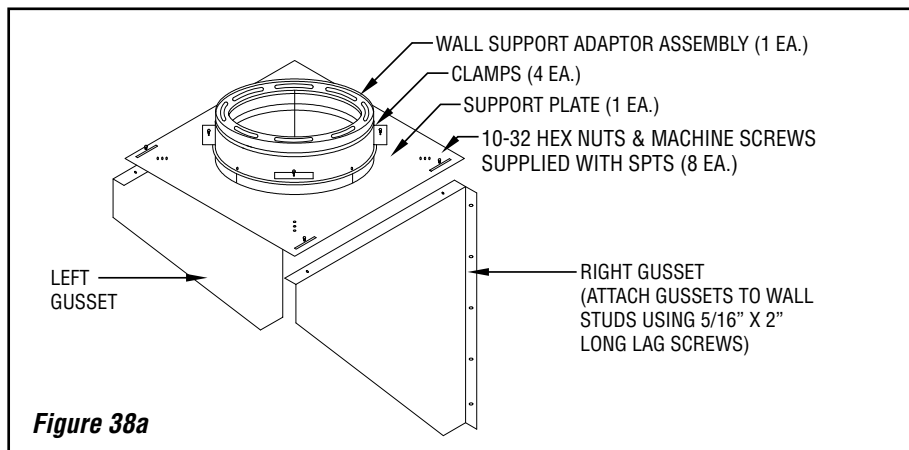

Figure 38a
7. Attach wall support plate to wall support adaptor using 4 clamps provided. Do not tighten. (See **Figure 38a**).
9. Install the tee cap to the bottom of the wall support adaptor with a minimum of two (2) #10 x 1/2" sheet metal screws.